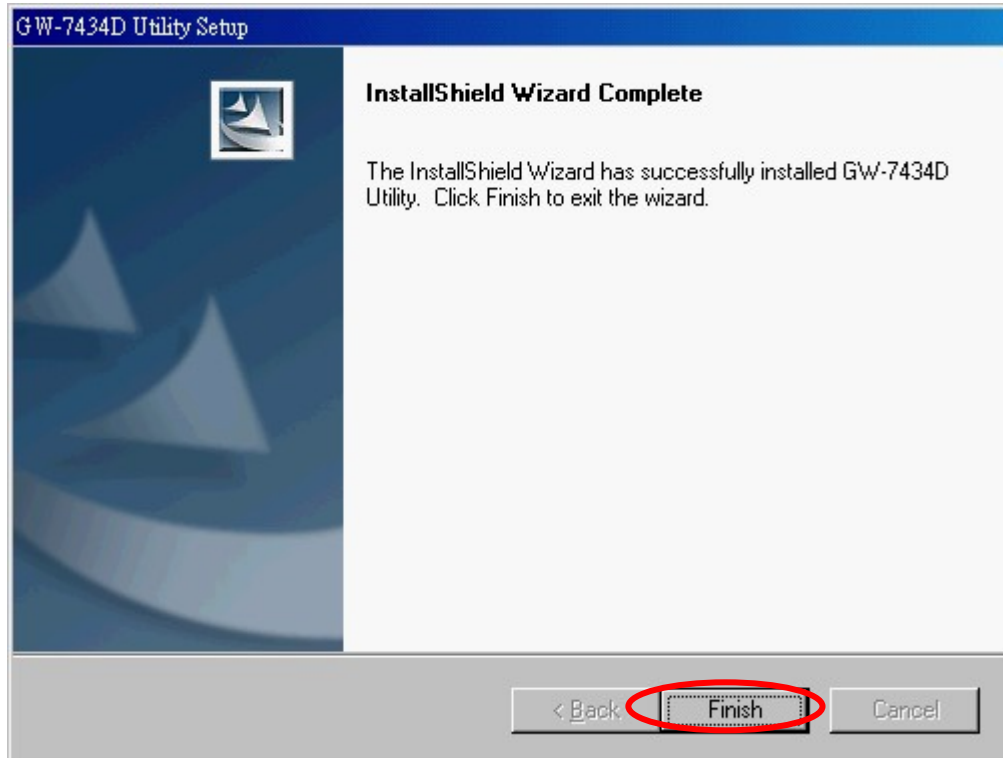

Figure 5-5: “Successful Completion of the Installation” dialog
**Step 6:** Click “Install” button and start to install the GW-7434D Utility to the system. After finishing the process, a “Complete” window will pop up to prompt users that the successful completion of the installation. And click “Finish” button to exit. See figure 5-5.